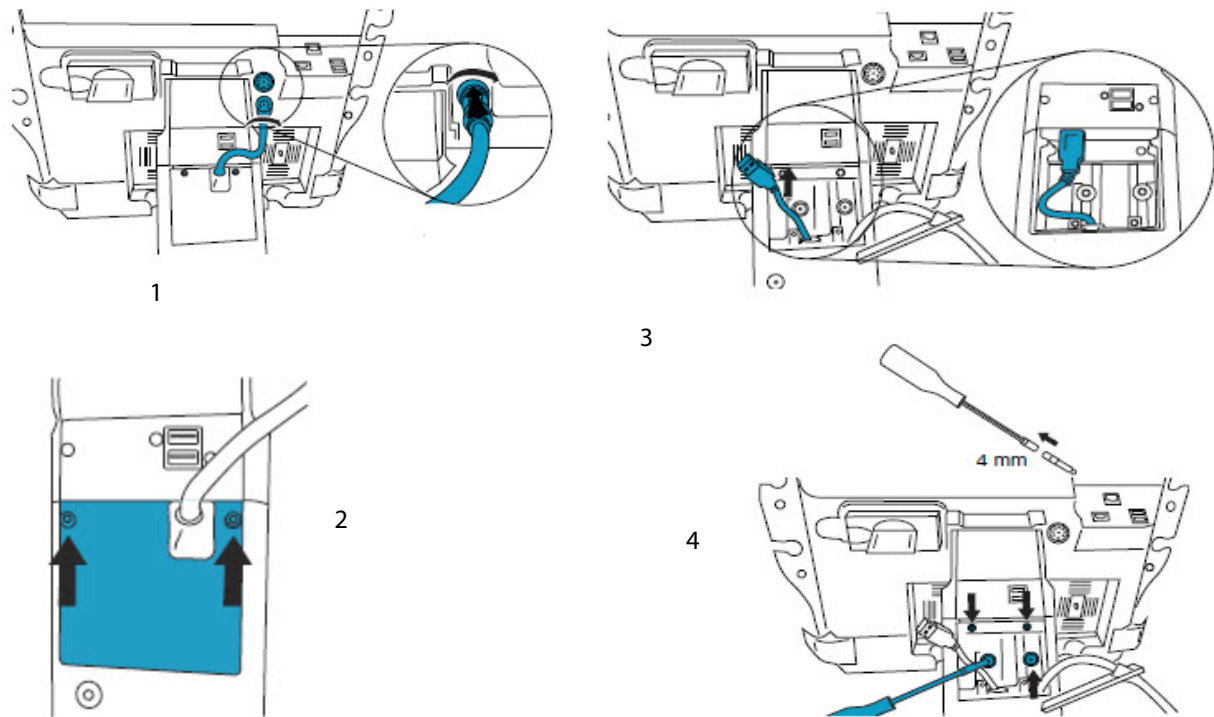

Figure 6.28 Stand Head Replacement
- 2 Remove the stand power supply connection from the back of the Stand Head per Figure 6.28 on page 69